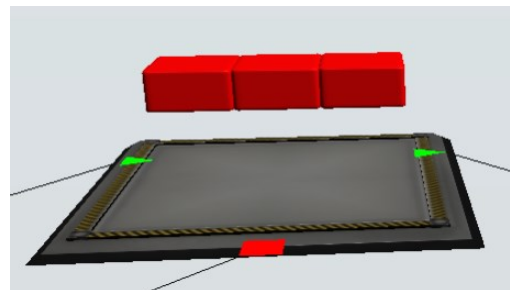

Fig. 11 Incorrect *StackBase Z setting*
3. **Stack Base Z** – specifies the level in the XYZ coordinate system from which the elements in the buffer are arranged. An example after setting the height to 0.5 m is shown in Figure 11.